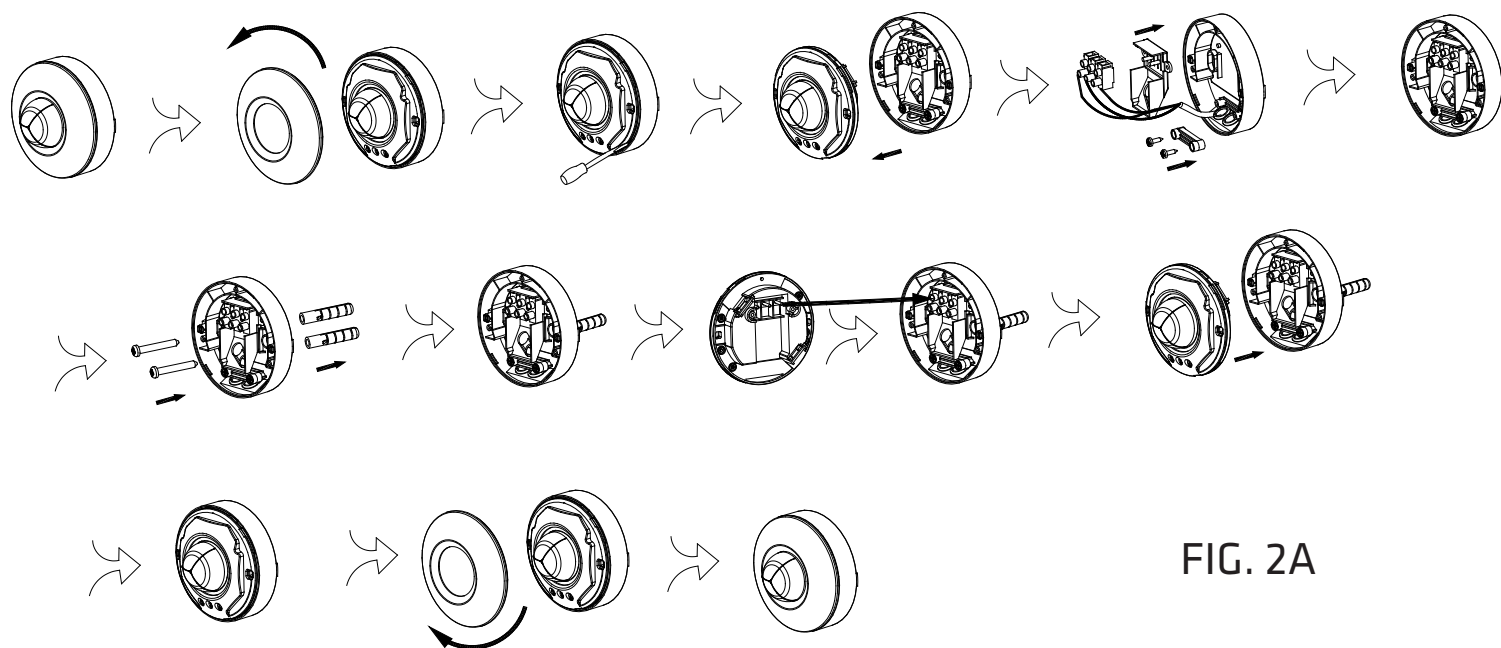
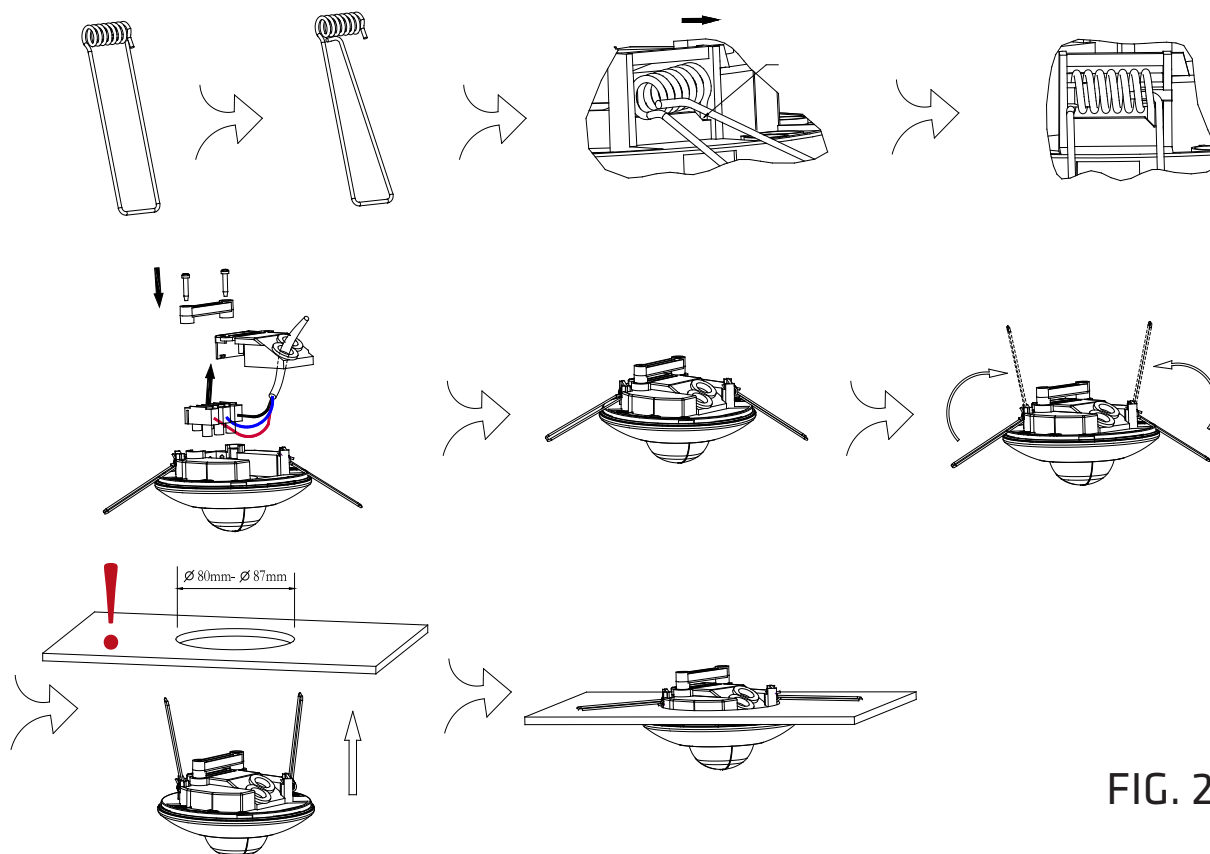

FIG. 2A
FIG. 2B
Before starting any electrical work, make sure that the power is turned off by turning off and removing the appropriate fuse. (See Fig. 2A and Fig. 2B)
A. Ceiling installation (Fig. 2A)
B. Recessed mounting (Fig. 2b)
1. Open the spring to position Fig. 2B